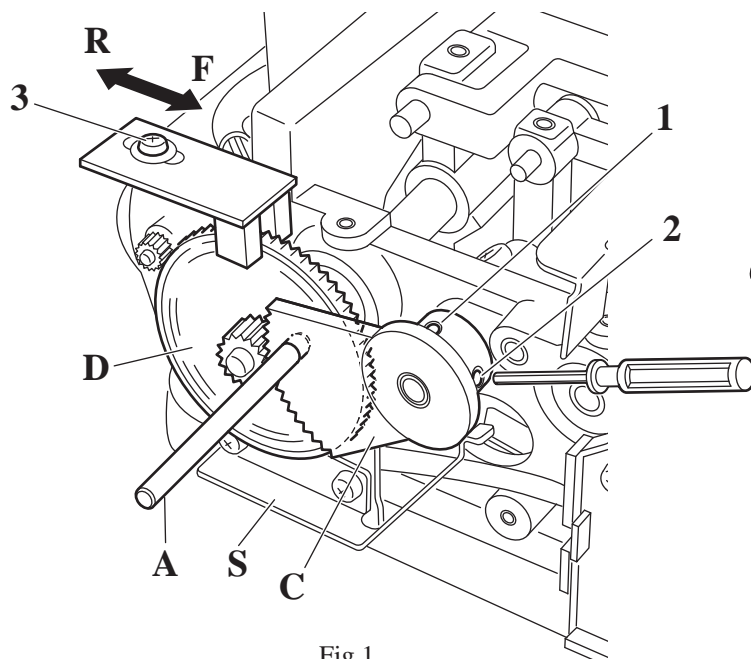

Fig.1
2. Insert Gauge pin "A" (No.11685) into two holes on the both gears "C " and "D"of D.F. stepping motor. (Fig.1)
4. Tighten set screws "1" and "2" of the gear "C". (Fig.1)
5. Secure the indication of stitch length number as "4" and D.F. as "1" on the LCD-display and perform its work test. If the feed length of front feed dog is larger than the same of the rear feed dog, loosen screw "3" and adjust the set position of the sensor in the direction of "R" , so that the both feed dogs have a equal feed length. (Fig.1)
6. On the contrary, if the feed length of the front feed dog is shorter, loosen the screw "3" and adjust the set position of the sensor in the direction of "F". (Fig.1)